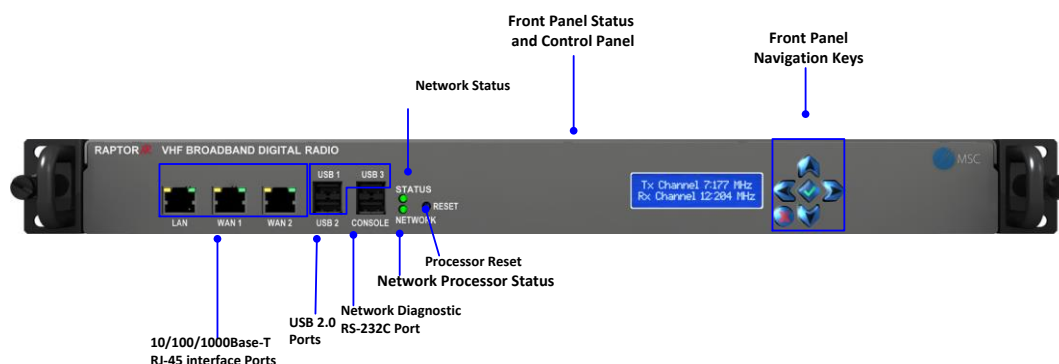

Figure 1.2 Single Link System (Front View) illustrating user indicators, controls and physical interfaces.
- The RaptorXR Single Link White Space Channel Configuration includes one (1) RaptorXR Network Shelf containing the local network processor and a single channel white space VHF/UHF broadband radio. Figure 1.1 below shows user indicators, controls and physical interfaces of the Single Channel System. Figure 1.2 shows the rear view of a Single Channel stack.